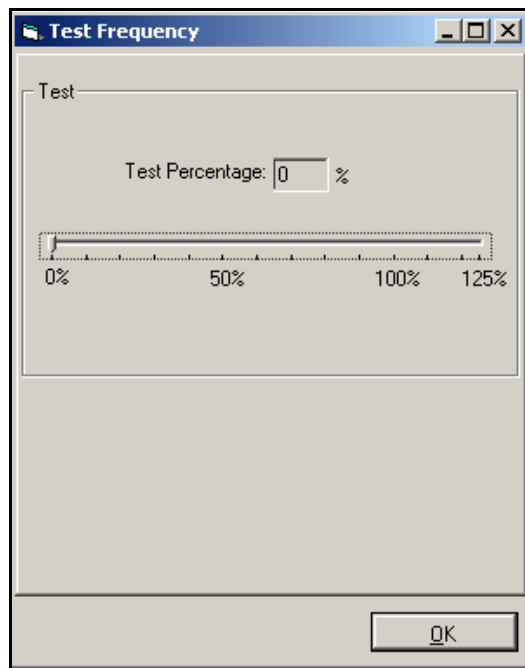

Figure 56: Test Frequency Window
3. The screen should now look similar to *Figure 56* below. Use the mouse to move the Test Percentage pointer to 0%. Read the frequency value on the oscilloscope. The oscilloscope should read the Zero value. Next, set the Test Percentage pointer to 100%. Read the frequency off the oscilloscope. The oscilloscope should read the Span value.